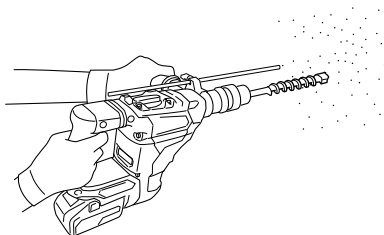

Fig. 13
1. How to drill holes (**Fig. 13**)